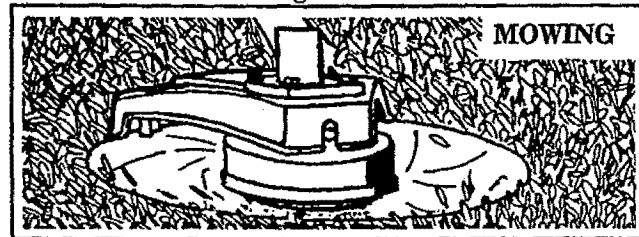

Figure 13
3. **MOWING** - Figure 13 . Your trimmer is ideal for mowing in places conventional lawn mowers cannot reach. In the mowing position, keep the line parallel to the ground. Avoid pressing the head into the ground as this can scalp the ground and damage the tool.